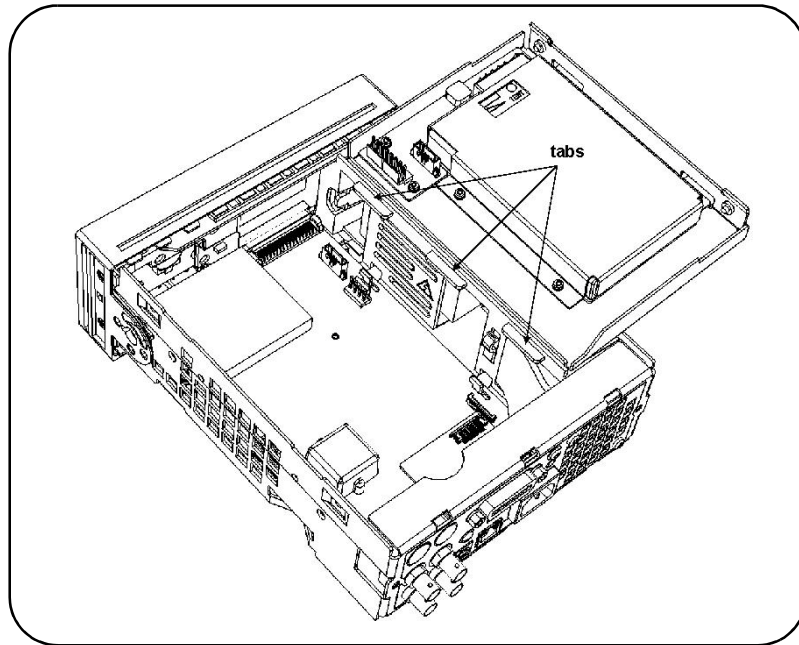

Figure 9. Battery Assembly Held By Three Small Tabs.
9. Move the whole assembly from the three small tabs and insert the three large tabs on the plastic AC power supply cover into the three slots on the battery assembly deck shown in Figure 9. Press the opposite side of the battery assembly down until the two tabs on the battery assembly deck rest in the the cutouts of the chassis side panel.